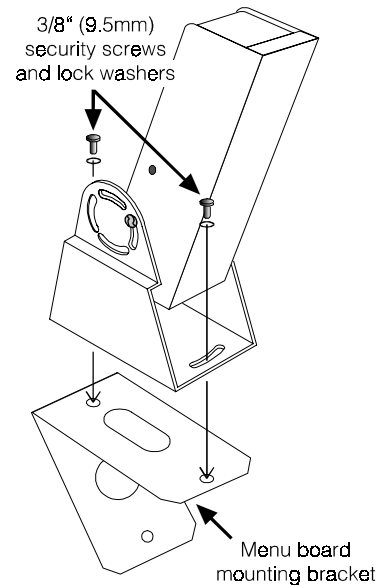

Figure E-7. Attach mounting bracket
- Attach the menu-board mounting bracket to the DM1 as shown in Figure E-7.